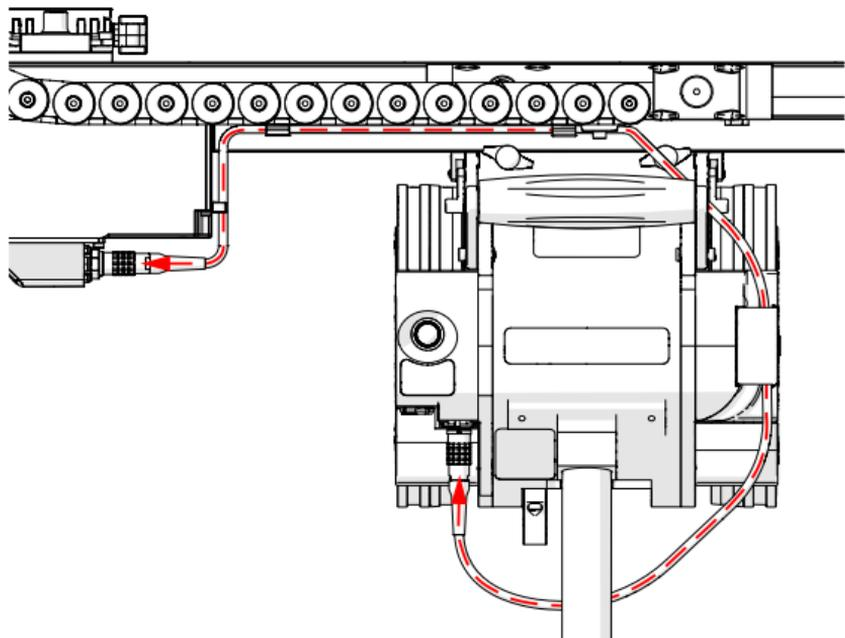

Fig. 45 - Raster arm cable routing
5. The opposite end of the raster arm cable is connected to the 8-pin port of the crawler (Fig. 45).